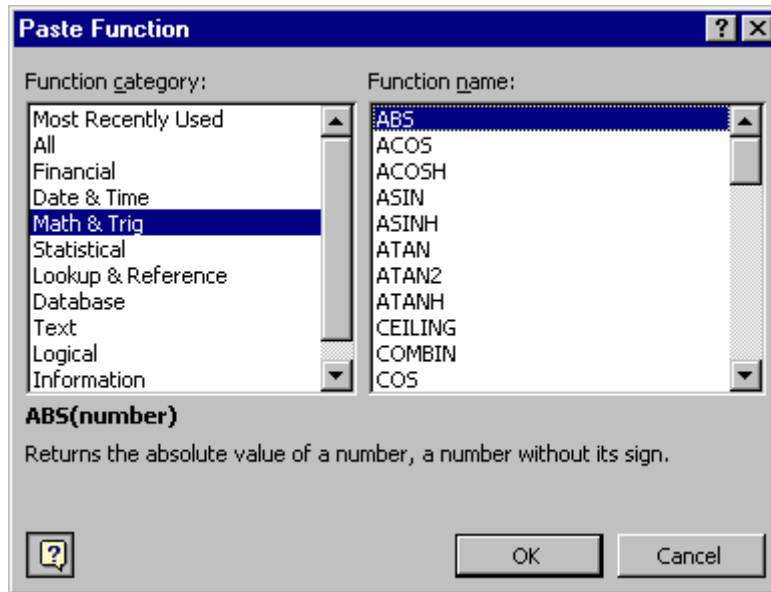

FIGURE 13:
27. The functions SQRT, ATAN, LOG10 etc. are built into EXCEL. You can find them by highlighting an empty cell and using the toolbar INPUT/FUNCTION to obtain the menu of Figure 13.